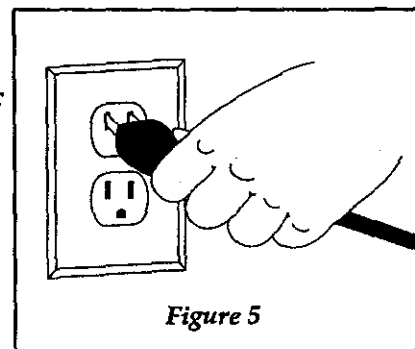

Figure 5
Step 5 Make sure the ON/OFF switch is OFF (0), then plug the electrical cord into a three-prong outlet. See Figure 5.